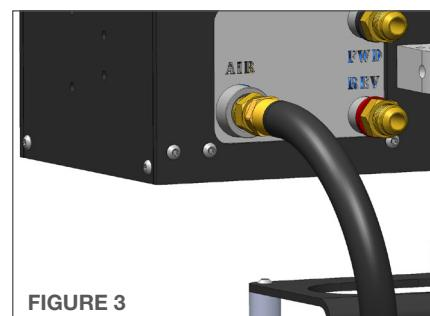

FIGURE 3
3. Connect the air hose from the FRL to the back of the Control Assembly. (**Figure 3**)